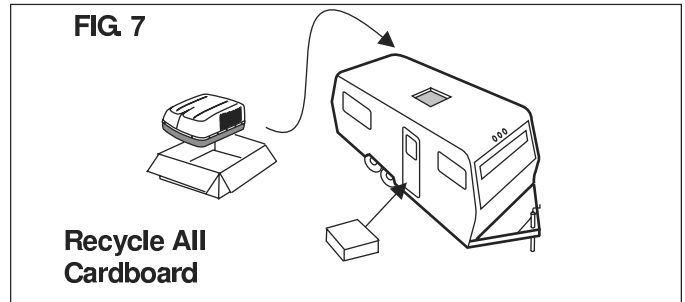

FIG. 7
- D. Place the 3107206 Air Box Kit inside the RV. This box contains mounting hardware for the air conditioner and will be used inside the RV. See FIG. 7.